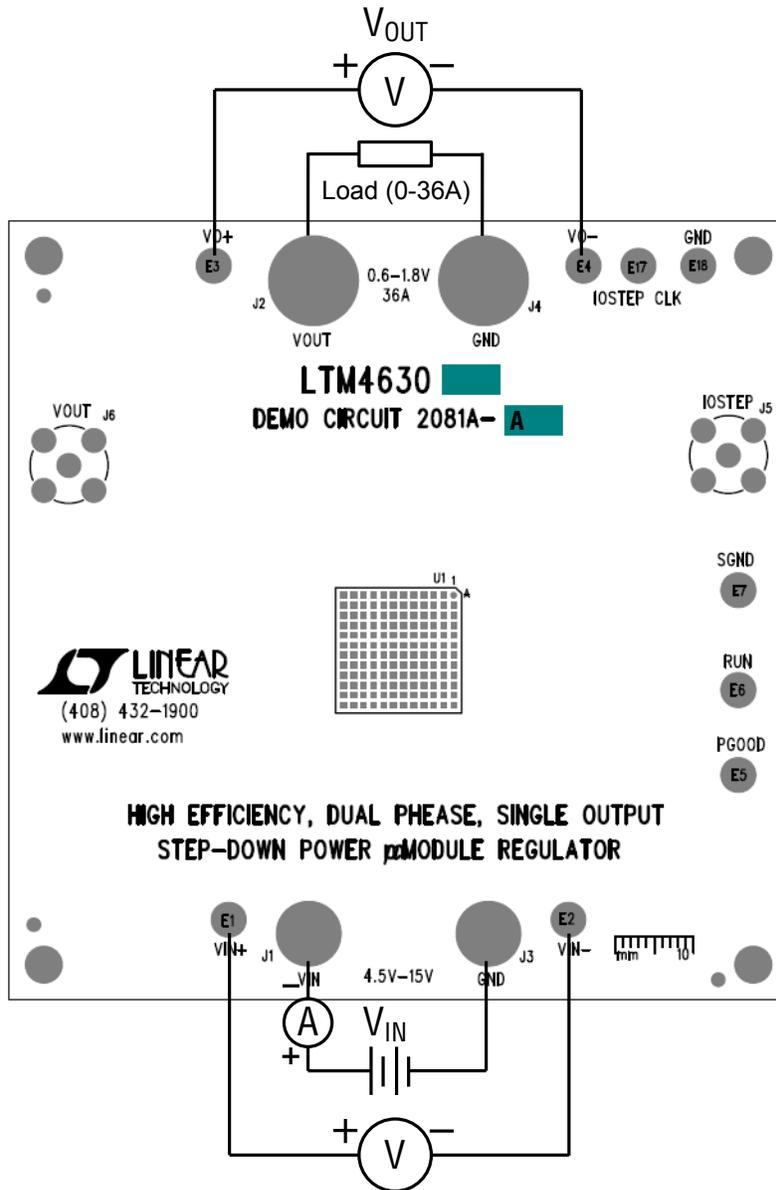

Figure 1. Test Setup of DC2081A-A
Demonstration circuit DC2081A-A is easy to set up to evaluate the performance of the LTM4630EV. Please refer to Figure 1 for proper measurement setup and follow the procedure below:
1. With power off, connect the input power supply, load and meters as shown in Figure 1. Preset the load to 0A and V_{IN} supply to 12V.